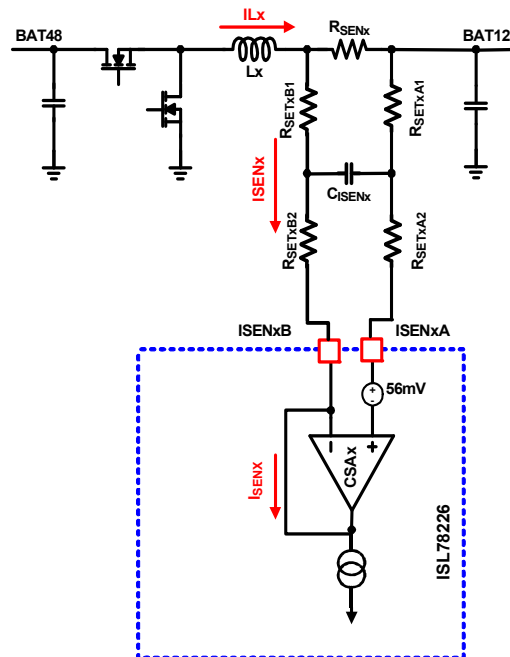

Figure 130. Current-Sensing Block Diagram for Individual Phase I_{SENx}
The ISL78224 peak current control architecture senses the inductor current of each phase continuously for fast response. A sense resistor (shunt) is placed in-series with the power inductor for each phase. The ISL78224 Current-Sense Amplifiers (CSA) continuously sense the respective inductor current (as shown in Figure 130) by sensing the voltage signal across the sense resistor R_{SENx} (where “x” indicates the specific phase number and same note applied throughout this document). The sensed current for each active phase is used for peak current mode control loop, phase current balance, individual phase cycle-by-cycle peak current limiting (OC1), individual phase overcurrent fault protection (OC2), averaged Constant Current Limit (CCL) control, Average Overcurrent Protection (AOCP), Diode Emulation (DE), and Phase Drop/Add control. The internal circuitry shown in Figure 130 represents a single phase and is repeated for each phase.
The recommended configuration of the RC network between the R_{SENx} and ISENxA/ISENB pins is shown in Figure 130. The current gain setting resistor, R_{SETxB} , is R_{SETxB1} plus R_{SETxB2} in Figure 130. That sum should be fixed at $1k\Omega$ for equal boost and buck current indications at $IMON$.
Renesas recommends that $R_{SETxA} = R_{SETxB}$ and that all four resistors are as equal in value as standard values allow. Insert a capacitor, C_{ISENX} , between them as shown in Figure 130. This forms a symmetric noise filter for the small current-sense signals. The differential filtering time constant equals $(R_{SETxA1} + R_{BIASxB1}) * C_{ISENX}$. This time constant is typically selected in the range of tens of ns depending on the actual noise levels.